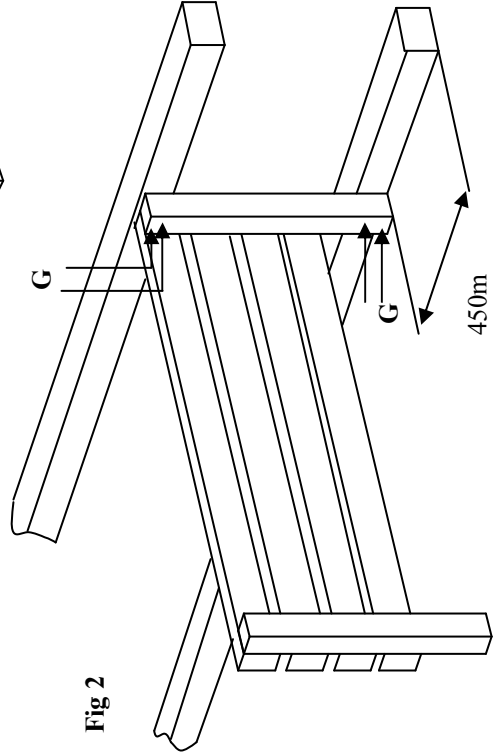

Fig 2
2. Lay one of the side assemblies (A) on a clean, flat area and attach the seat to the side assembly using screws (G). The seat should be positioned approximately 450mm from the bottom of the posts as Fig. 2.
3. Turn the assembly onto the seat back (B) so that the second side may be attached to the other end of the seat assembly. Ensure the seat height is the same on both sides.